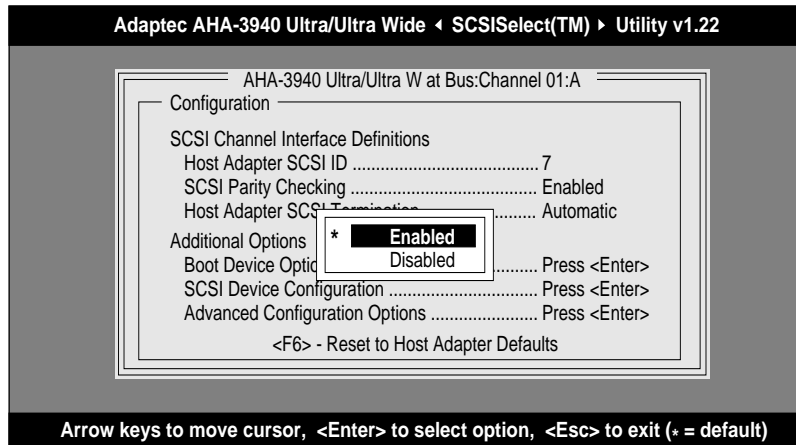

Figure 3-6. SCSI Parity Checking Selection
- 2 Highlight **SCSI Parity Checking**, then press **Enter**. The pop-up menu shown in Figure 3-6 appears.